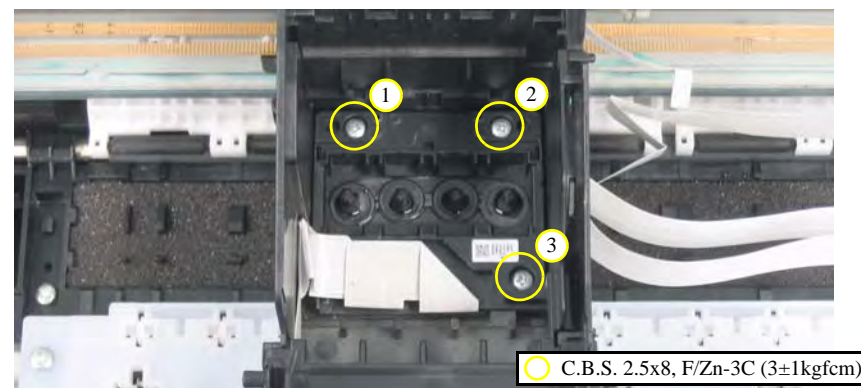

Figure 4-35. Removing the Printhead (1)
- Tighten the screws in the order given in Figure 4-35.